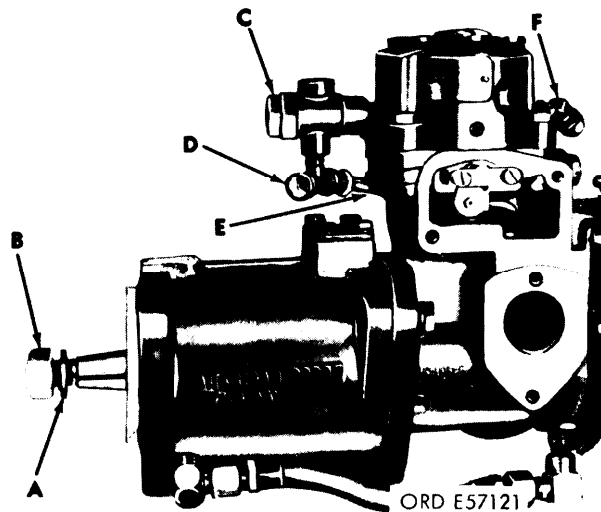
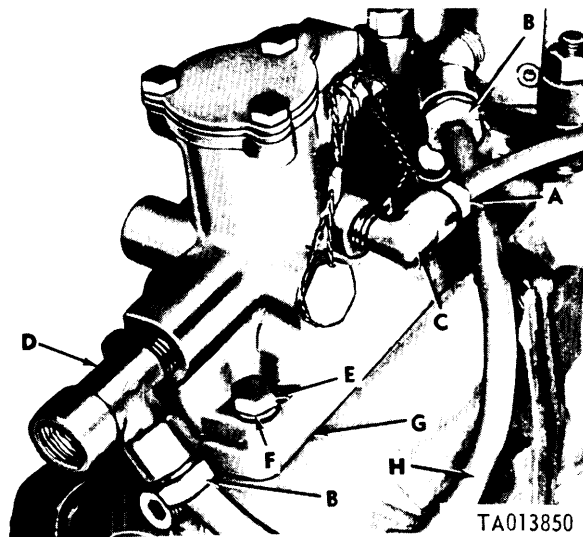
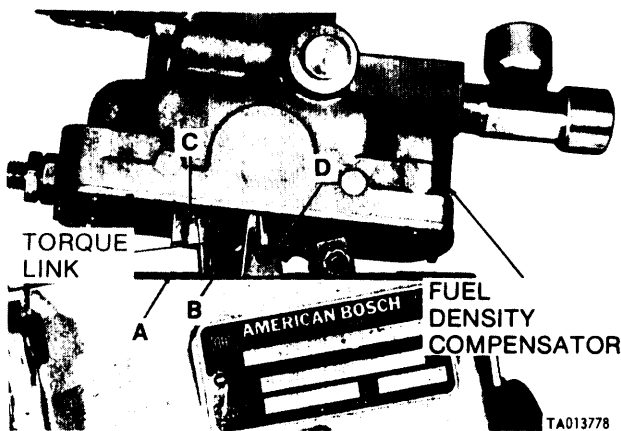

Figure 3-152. Installing overflow valve assembly
Figure 3-153. Installing fuel density compensator assembly.
Figure 3-155. Assembling fuel density compensator fuel stop plates (Code A pumps).
3-46. Installation of Fuel Density Compensator. *a. Installation of Fuel Density Compensator (Code B, C, D, E and F pumps).* Refer to figure 3-153. Position a new mounting gasket (G) on governor housing. Position fuel density compensator on governor housing and secure with four 1/4 x 1 1/4 capscrews (E) and four 1/4 inch lockwashers (F). Torque tighten screws 50-60 inch-pounds. Install density compensator to overflow valve tubing (E, fig. 3-152). Connect tubing (A) to elbow (C). Install tubing (H) to tee (D) and elbow in hydraulic head (B).
b. Installation. Refer to figure 3-152. Install lockwasher (A) and stet nut (B) on advance unit shaft. Tighten nut finger tight. Install overflow valve assembly (C) in position on hydraulic head.
b. *Installation of Fuel Density Compensator (Code A Pumps).* Refer to figure 3-155, Position a new mounting gasket (A) on governor housing. Engage dovetail in torque link stop (B) with dovetails on guide (C) and compensator plate (D). All divetails must be properly engaged. Refer to a above and figure 3-153 to complete installation of compensator on injection pump.